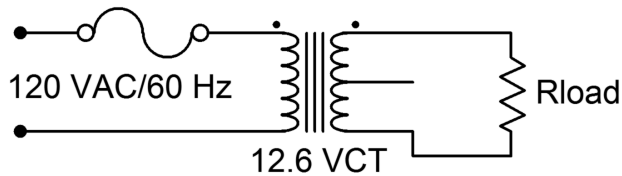

Figure 3
5. This section uses the 120 VAC line. Treat it with the caution it deserves. Connect the circuit of Figure 3 leaving R_{load} unconnected. Measure the secondary voltage with the DMM (AC Volts). Record the value in Table 3 under "Unloaded".